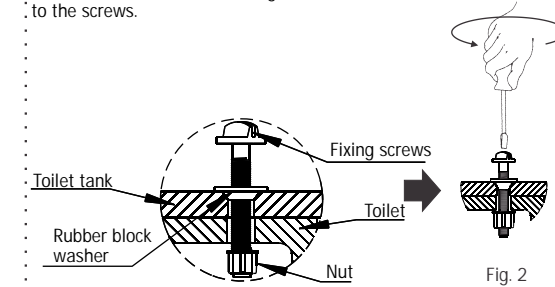

Fig. 2
Align the toilet tank holes along with the toilet tank. The bolt must be kept locked with the screw driver; thread the nut up to the point it touches the toilet. Holding the nut with your hands is not necessary. Check Fig. 2. We recommend the use of a 1/2" x 12" screw driver.
- 1: Observe the sequence for assembling product. Fig. 2